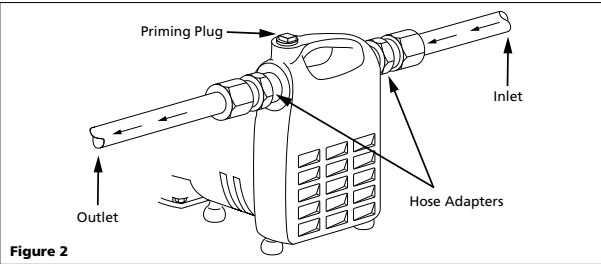

Figure 2
- 4. Figure 2 shows a typical installation. Threaded adapters are furnished for attaching garden hose where conditions permit its use. In no case should the pump be more than 15 feet above or away from inlet source. Install a foot valve and when suction lift is over 10 feet or when suction line is over 10 feet.